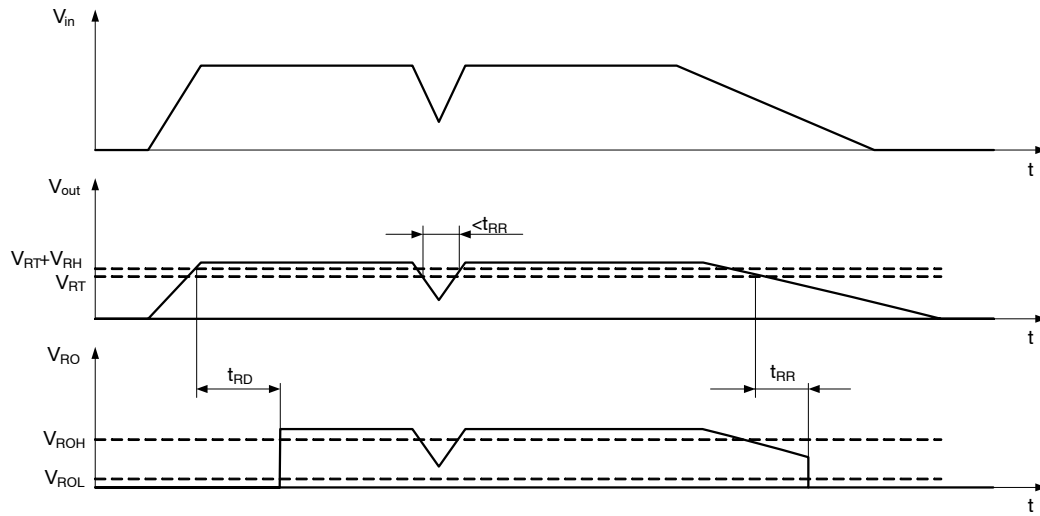

Figure 28. Reset Function and Timing Diagram
A reset signal is provided on the Reset Output (RO) pin to provide feedback to the microprocessor of an out of regulation condition. The timing diagram of reset function is shown in Figure 28. This is in the form of a logic signal on RO. Output voltage conditions below the RESET threshold cause RO to go low. The RO integrity is maintained down to  $V_{out} = 1.0$  V. The Reset Output (RO) circuitry includes internal pull-up connected to the output ( $V_{out}$ ) No external pull-up is necessary.